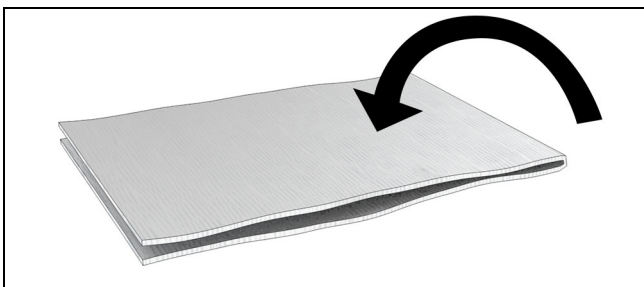

Figure 16 Fold sill pan flashing in half.
2. Fold material in half to crease. See Figure 16.